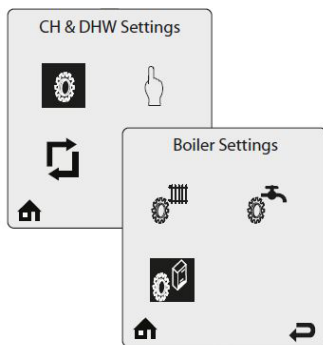
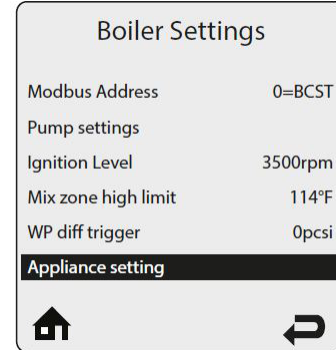

Fig. 10: Installer Menu
Fig. 11: Appliance setting
2. Go to boiler settings and click appliance setting, as seen in Fig. 10 and Fig. 11.